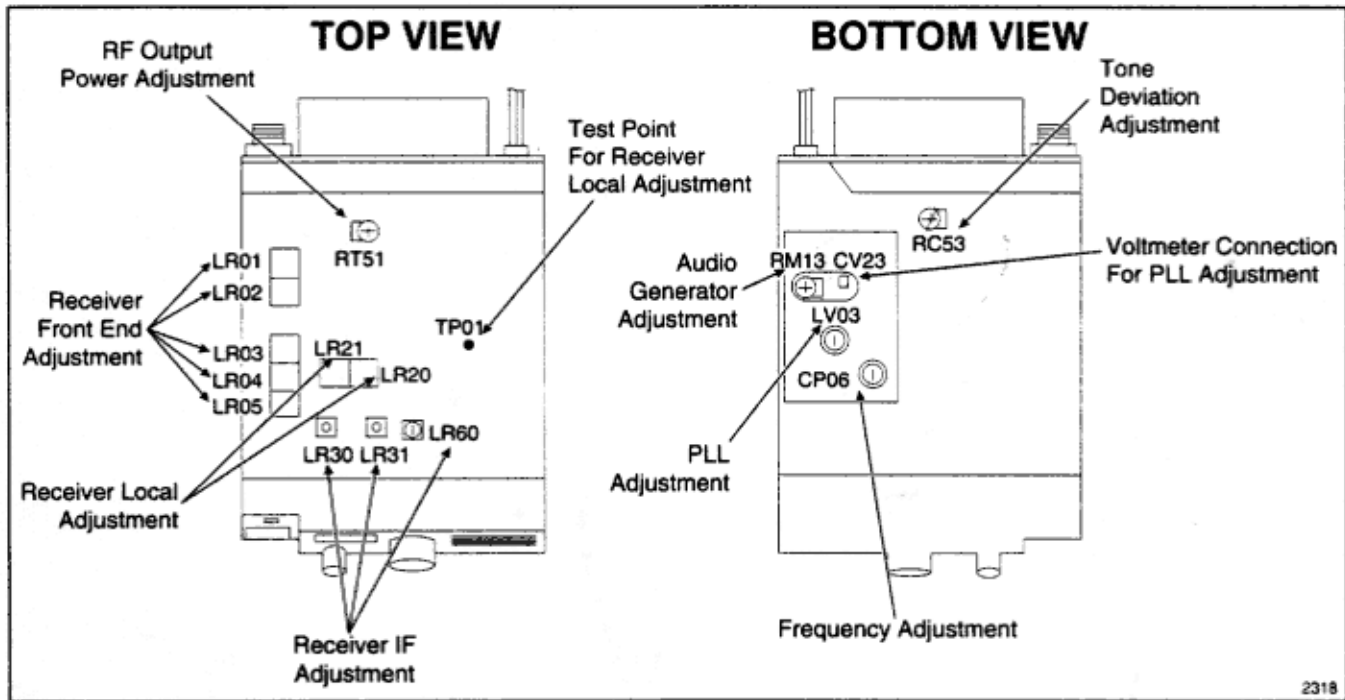

Figure 4-5. Alignment Reference Points
3. Adjust LV03 for a reading of 3.0 volts. See Figure 4-5 for location of LV03.